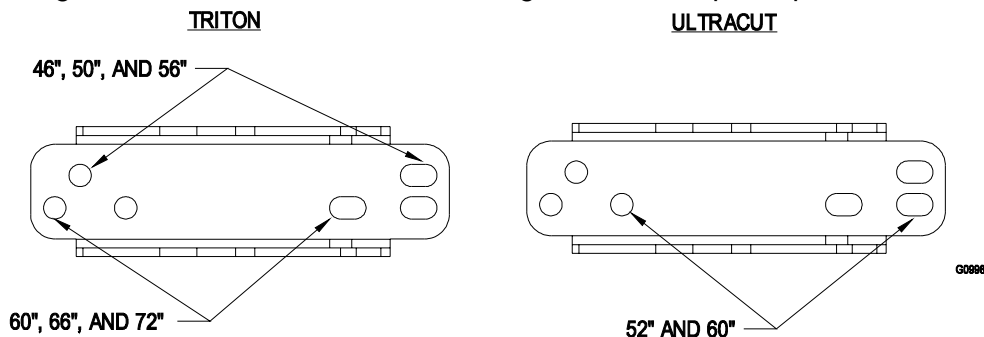

FIGURE 2
3.2.2 Use Figure 2 to locate the correct mounting holes on the pedal pivot bracket.